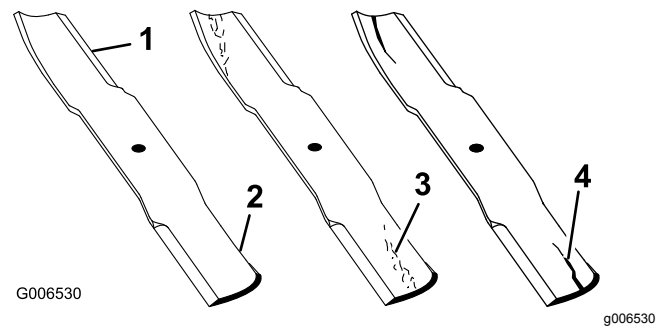

Figure 53
1. Inspect the cutting edges (Figure 53).
2. Inspect the blades, especially the curved area (Figure 53).
Note: If you notice any damage, wear, or a slot forming in this area (Figure 53), immediately install a new blade.